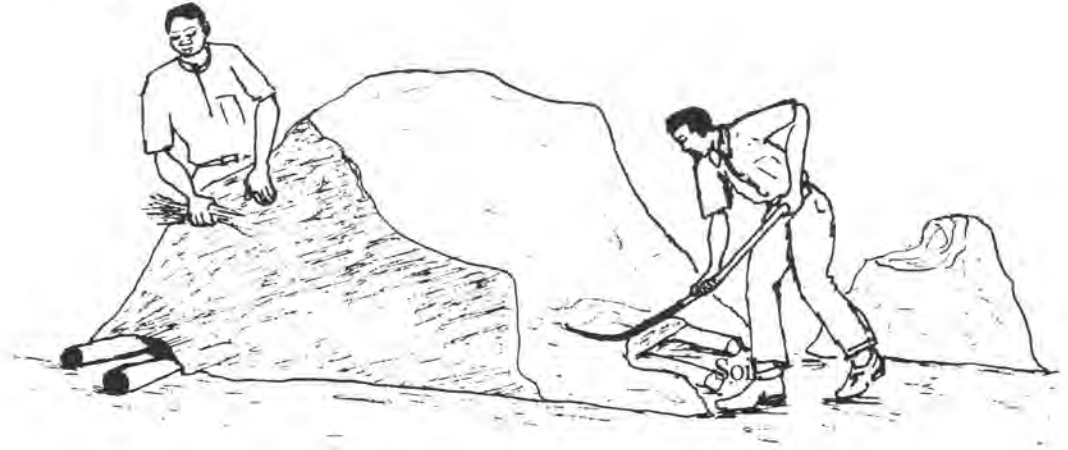

Figure 5.4: *Covering the wood completely with grass or foliage and then soil*
5. Cover the wood completely with grass or foliage first and then soil (Figure 5.4).